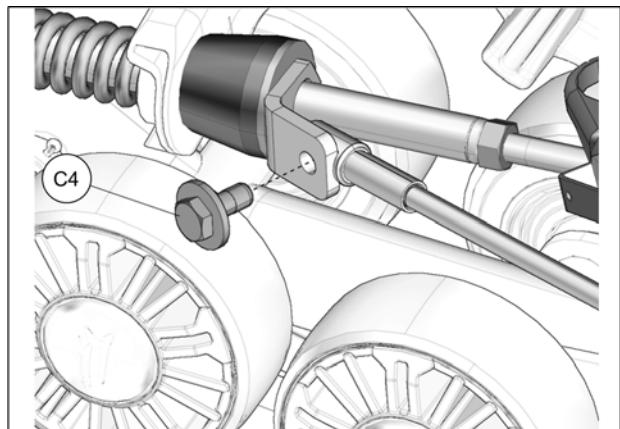

Fig. 25
14. Reverse steering wheel a little to be able to bolt support plate and cable together. Tighten provided bolt (**C4**) to 35 N·m [24 lb·ft]. See Fig. 25. Repeat steps on right side.